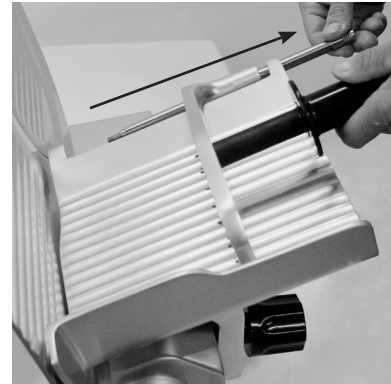

Figure 11-1
2. Turn slice thickness dial clockwise past zero (0) until it stops so the table covers the knife edge.
4. Remove food chute's end weight. Hold end weight and unscrew slide rod (Fig. 11-1). Pull slide rod out of the pivot of end weight.